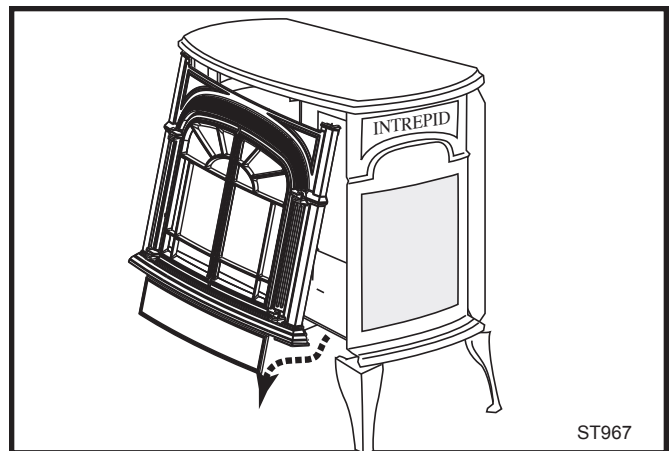

Fig. 1 Remove the stove front. (Top vent shown)
1. Remove stove front. Lift stove front up and then swing bottom out and away to disengage from the stove body. (Fig. 1)